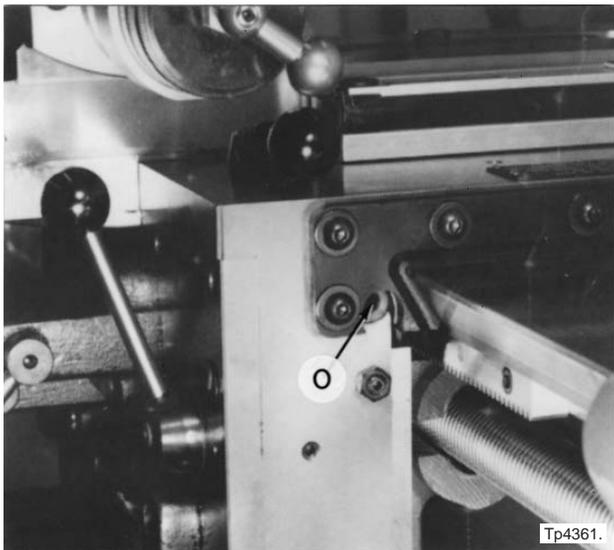

Figure 1.34 - Carriage Gib Adjustment
After a period of continued use, it may become necessary to adjust the carriage gib. The gib is the tapered type and adjustment is made from the large end of the gib at "O", Figure 1.34 .
1. Insert a 1/4 inch hexagon wrench into adjusting screw "O", Figures 1.34 and 1.35 .